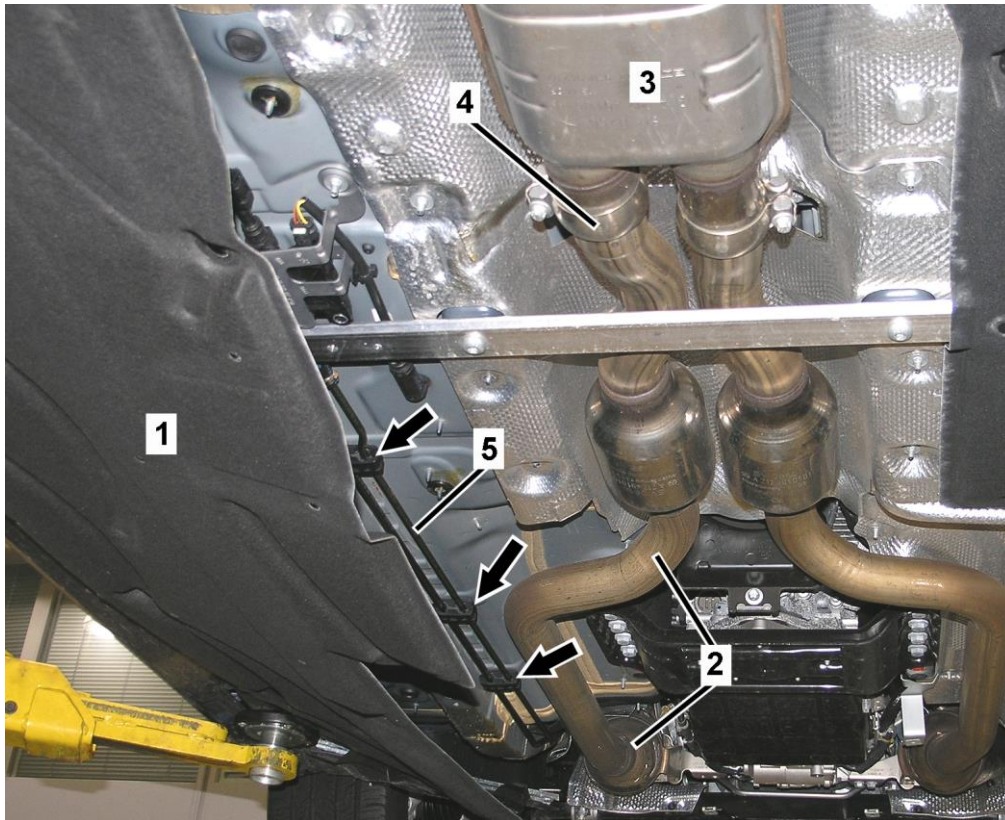

Figure 1
2.  Partially detach left underfloor paneling (1, Figure 1) and remove lower engine panel below oil pan.
3.  Loosen left front exhaust pipe (2, Figure 1) from center muffler (3):
- Detach left front exhaust pipe (2) from exhaust manifold.
- Detach left front exhaust pipe (2) from front mounting mounting bracket.
- Loosen clamp (4) then loosen left front exhaust pipe (2) from center muffler (3):
4.  Unfasten fuel line (5, Figure 1) from lower mounting brackets (arrows).